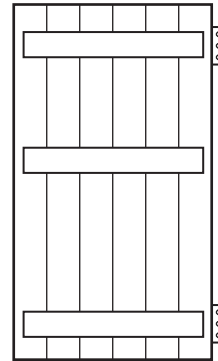

Fig. 1b
- (b) Show on Fig. 1b how the door can be modified to ensure it has greater structural strength. [2]